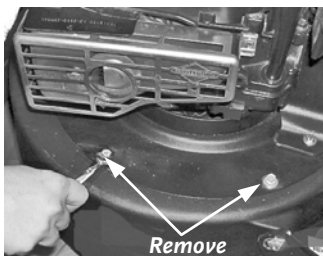
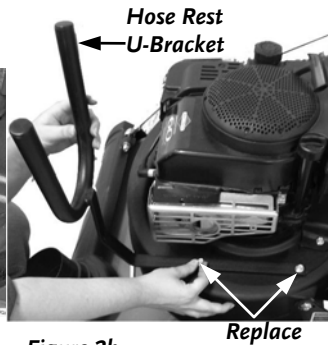

Figure 2a
Figure 2b
3. To install the Hose Rest U-Bracket to the Engine, first remove the two (2) Self-Tapping Screws (**Figure 2a**). Then attach the Bracket using two (2) new 1/4"-20 x 1" Self-Tapping Screws with 1/4" Flat Washers provided, into the holes where the original screws were removed (**Figure 2b**).